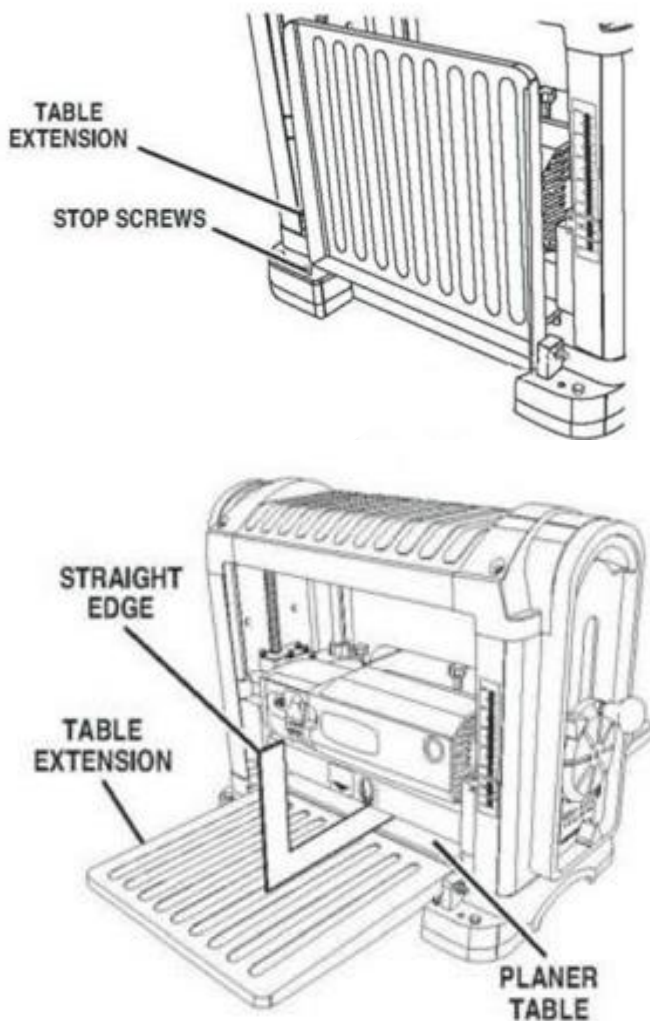

FIG 3
1. Lay a straight edge on the planer table with one end of the straight edge over the infeed table. SEE FIG 3.